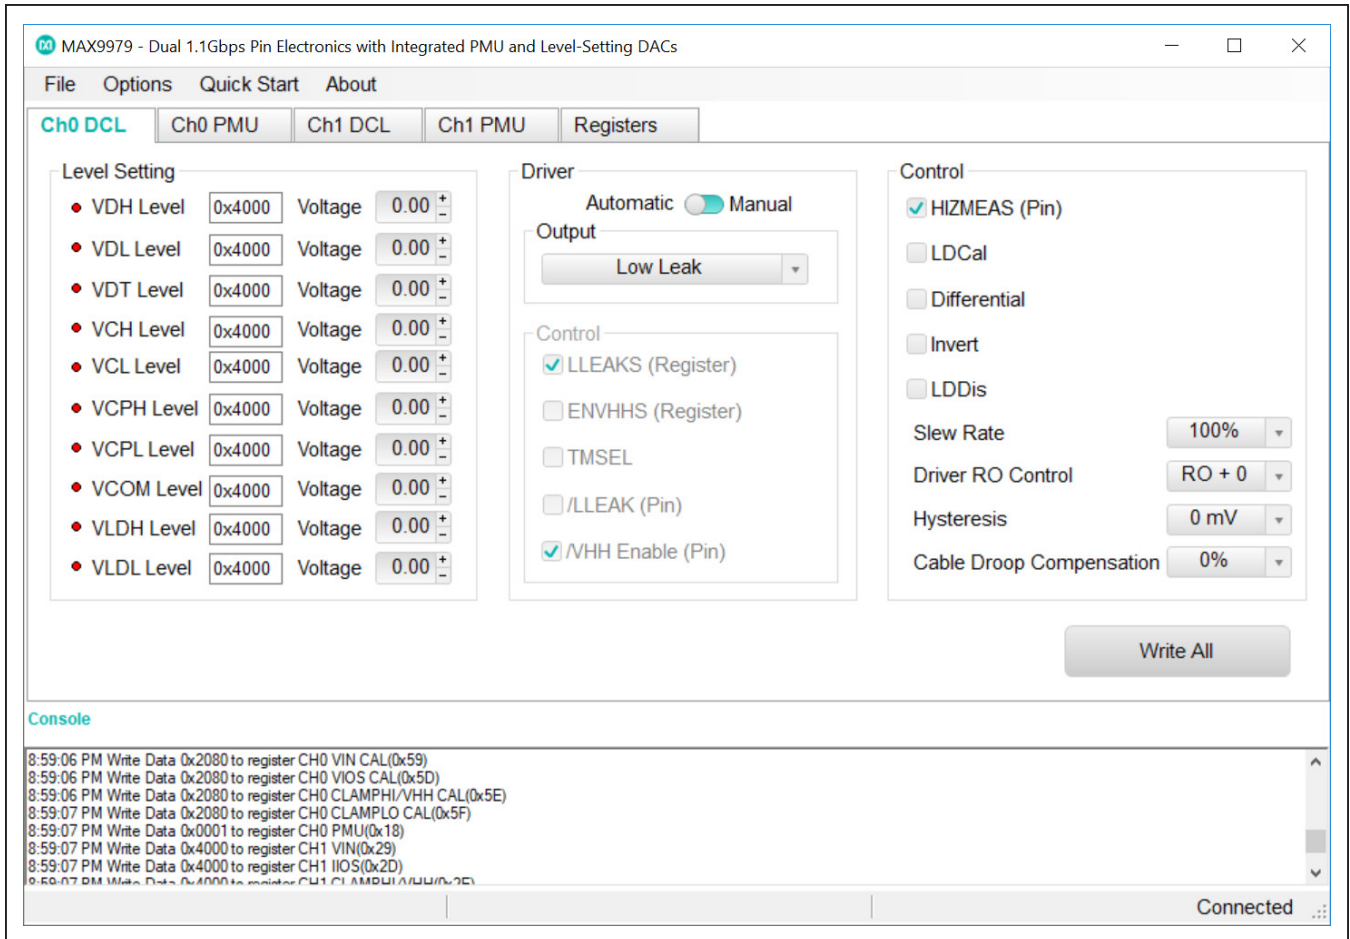
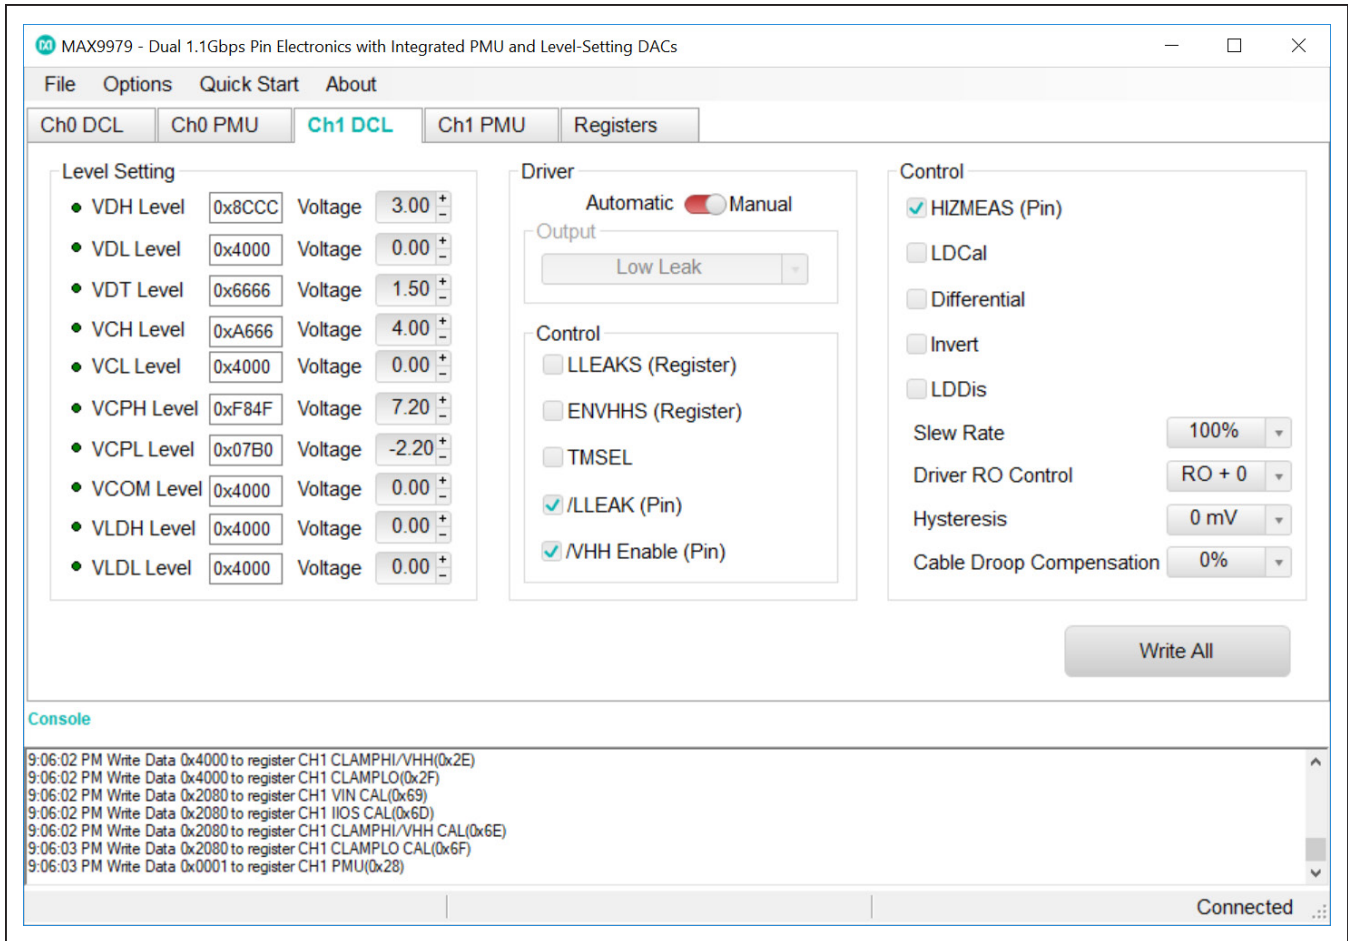

Figure 1. MAX9979 EV Kit Software Main Window (Ch0 DCL Tab)
Figure 3. MAX9979 EV Kit Software Main Window (Ch1 DCL Tab)
- 16) Start the MAX9979 EV kit software by double clicking the icon on the desktop. The EV kit software main window appears, as shown in Figure 1.
**Ch0 DCL** and **Ch1 DCL** tab sheets (Figure 1 and Figure 3) are identical and are for channels 0 and 1, respectively. These tab sheets contain **Level Setting**, **Driver**, and **Control** group boxes. Click on **Write All** button to load the data into the MAX9979 through SPI interface.
Tab sheets (Figure 1 and Figure 3) are identical and are for channels 0 and 1, respectively. These tab sheets contain group boxes. The value can also be typed into the edit boxes inside the **Voltage** group box.